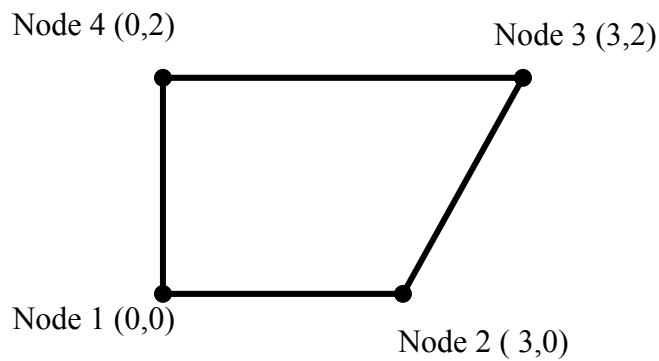

Figure 11
- (b) Show clearly in step by step manner the development process of the stiffness matrix, $[K]^e$, for a rectangular element in a state of plane stress as shown in Figure 11. Given $E = 200 \text{ GN/m}^2$, $\nu = 0.3$ and $t = 2 \text{ cm}$.